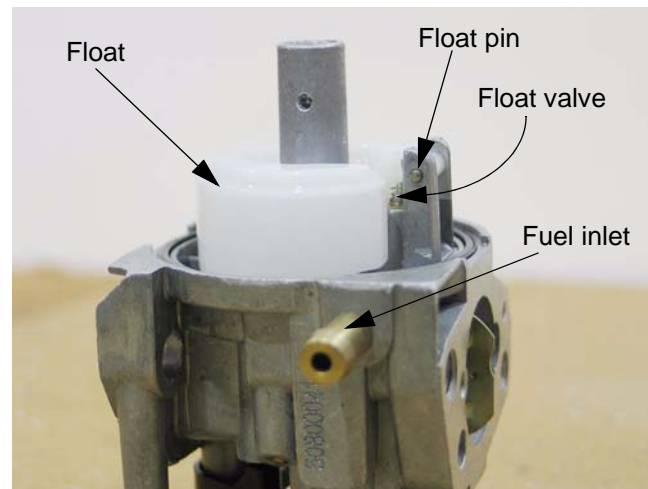

**Figure 8.23**
8.23. Bowl removal is a logical place to begin carburetor disassembly. Remove the bowl bolt using a 10mm wrench. See Figure 8.23.